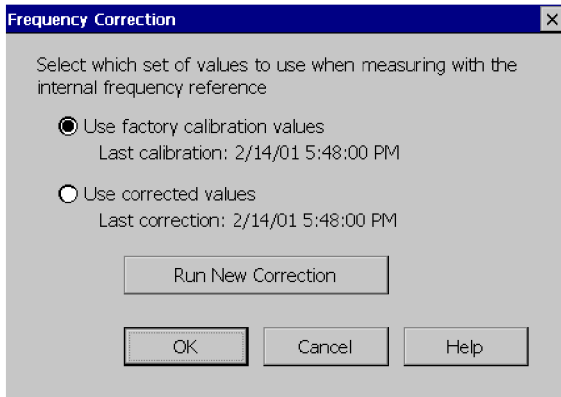

Figure 2-9: The Frequency Correction dialog
3. Select **Tools > Frequency Correction**. This displays the Frequency Correction dialog shown in Figure 2-9.